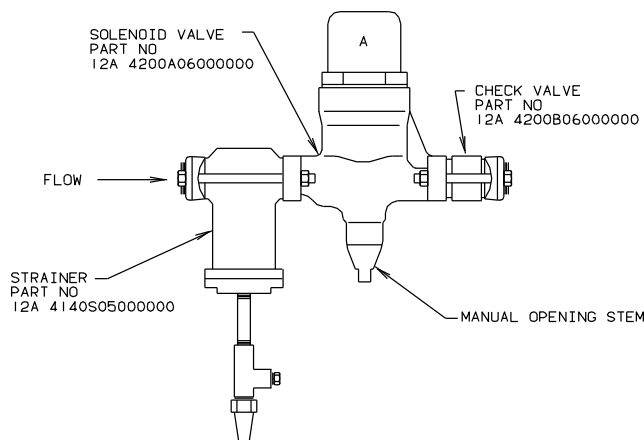

Figure 9-8
The Liquid Feed Solenoid Valve (20), Figure 9-8, is opened and closed during the freezer cycle by the float switch (10), in order to maintain the proper freezer refrigerant level. It is closed when the machine is off to prevent liquid flow from the receiver to the freezer.